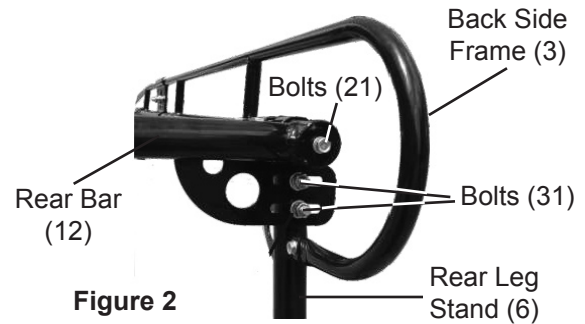

Figure 2
4. Slide each end of Rear Bar (12) over top ends of Back Side Frames. Fasten together using Bolts (18), Nuts (19) and Flat Washers (20). See **Figure 2**, above.
5. Thread Bolt (31) and Washer (34) through Rear Leg Stands (6, 7) and out from rear leg bar bracket slots. Attach Washer (34) and Nut (32) and then finger tighten. Repeats these steps for the opposite side. See **Figure 2**, above.